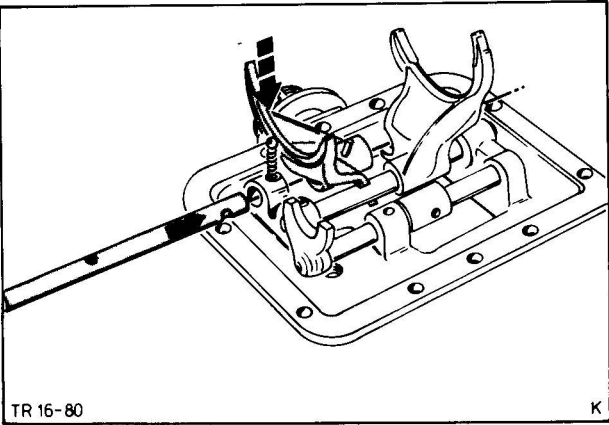

Fig. 131. Fit 1st/2nd gear selector fork and rail
9. Fit 1st/2nd gear selector fork and rail, Fig. 131.